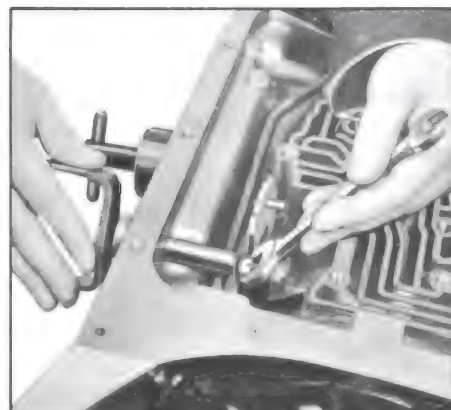

Figure 5-524
9. Remove the front servo assembly. See Figure 5-524.
10. Unthread the jam nut holding detent lever to manual shaft. See Figure 5-524.